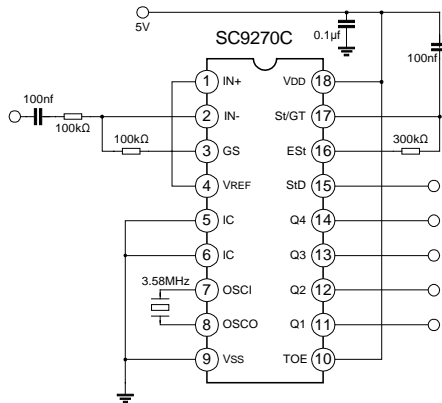
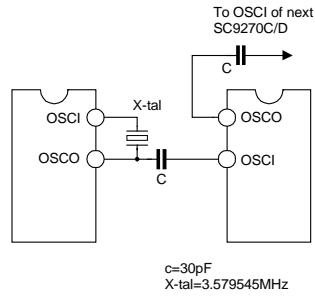

Figure 2. Single ended input cofiguration
Figure 9 Oscillator Connection
**AC CHARACTERISTICS** (All voltage referenced to Vss otherwise noted; VDD=5.0V, VSS=0V, TA=25°C, fCLK=3.579545 MHz, using test circuit of figure 2 & 3. Typical figures are at 25°C and are for design aid only: not guaranteed and not subject to production testing)
Provision is made for connection of a feedback resistor to the op-amp output (GS) for adjustment of gain. In a single-ended configuration, the input pins are connected as shown in Fig.2 with the op-amp connected for unity gain and VREF biasing the input at 1/2VDD.
The internal clock circuit is completed with the addition of an external 3.579545MHz crystal and is normally connected as shown in Figure 2. However, it is possible to configure several SC9270C/D devices employing only a single oscillator crystal. The oscillator output of the first device in the chain is coupled through a 30pF capacitor to the oscillator input (OSCI) of the next device. Subsequent devices are connected in a similar fashion. Refer to Figure 9 for details. The problems associated with unbalanced loading are not a concern with the arrangement shown, ie: precision balancing capacitors are not required.